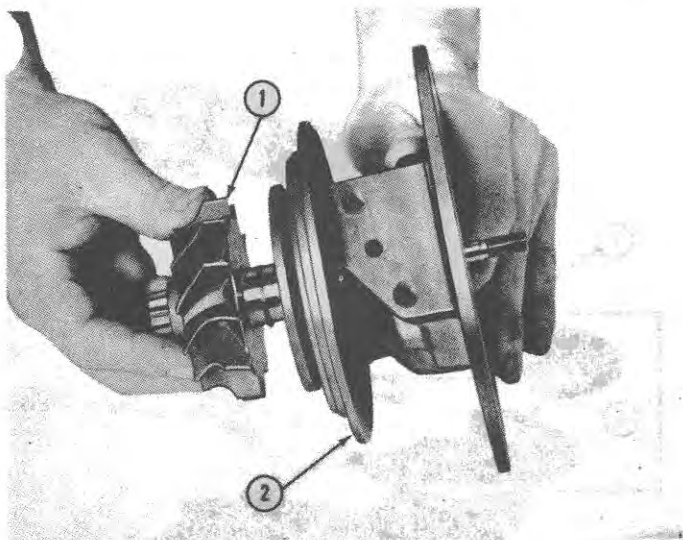

Figure 8
2. Lubricate the sealing ring with engine oil and install the turbine wheel and shaft assembly in the bearing housing as shown in Figure 8. Be careful when seating the sealing ring in the bearing housing to prevent damage to the ring or the bore.